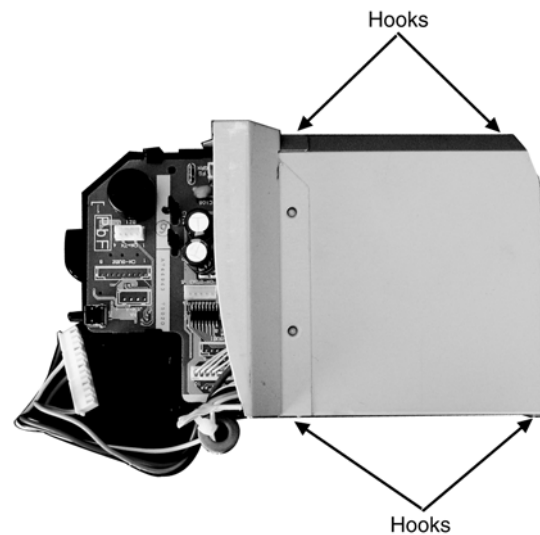

Fig. 7
5. Remove control board cover (R) from control board cover (L) by releasing the hooks. (Fig.7)